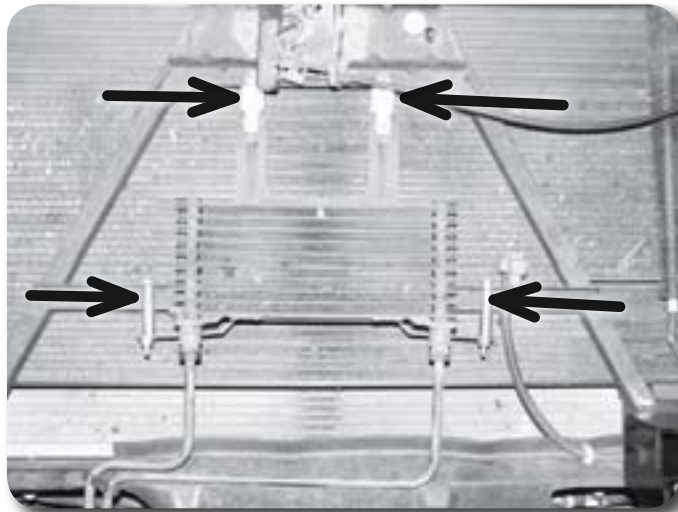

Figure 23
55. Position the provided oil cooler spacer sleeves ( $\frac{1}{2}$ " OD x 2" Long) between the two bottom oil cooler mounting tabs and the original mount on the core support **Figure 23**. Fasten the spacers and cooler to the core support with the provided  $\frac{1}{4}$ " x 3" bolts, nuts and  $\frac{1}{4}$ " USS washers. Torque to 15 ft-lbs.
56. Mount the cooler lines back in the plastic retaining clip at the bottom of the core support **Figure 23**.